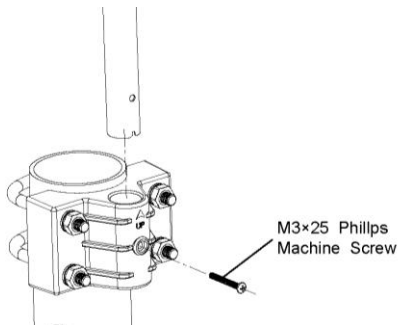

Figure 5
3. Insert the arm into the base as Figure 5. Be sure to line up the small hole in the arm with the holes in the base. Insert the machine screw through the holes in the base and arm.